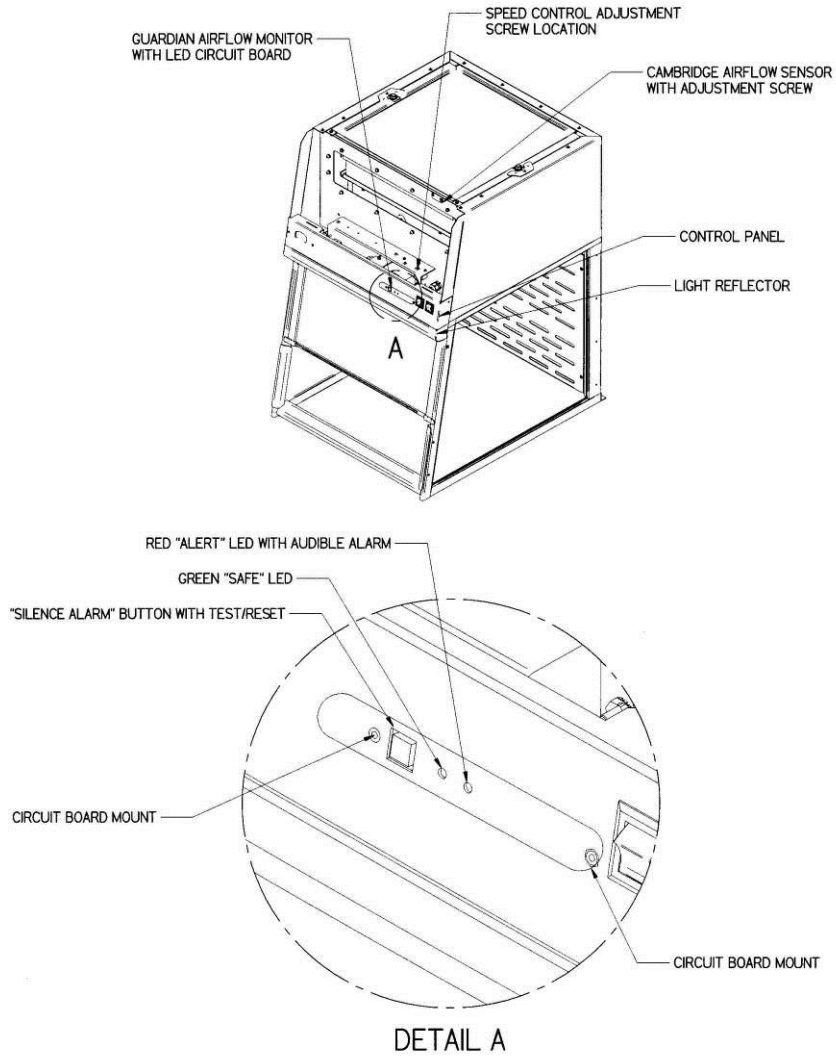
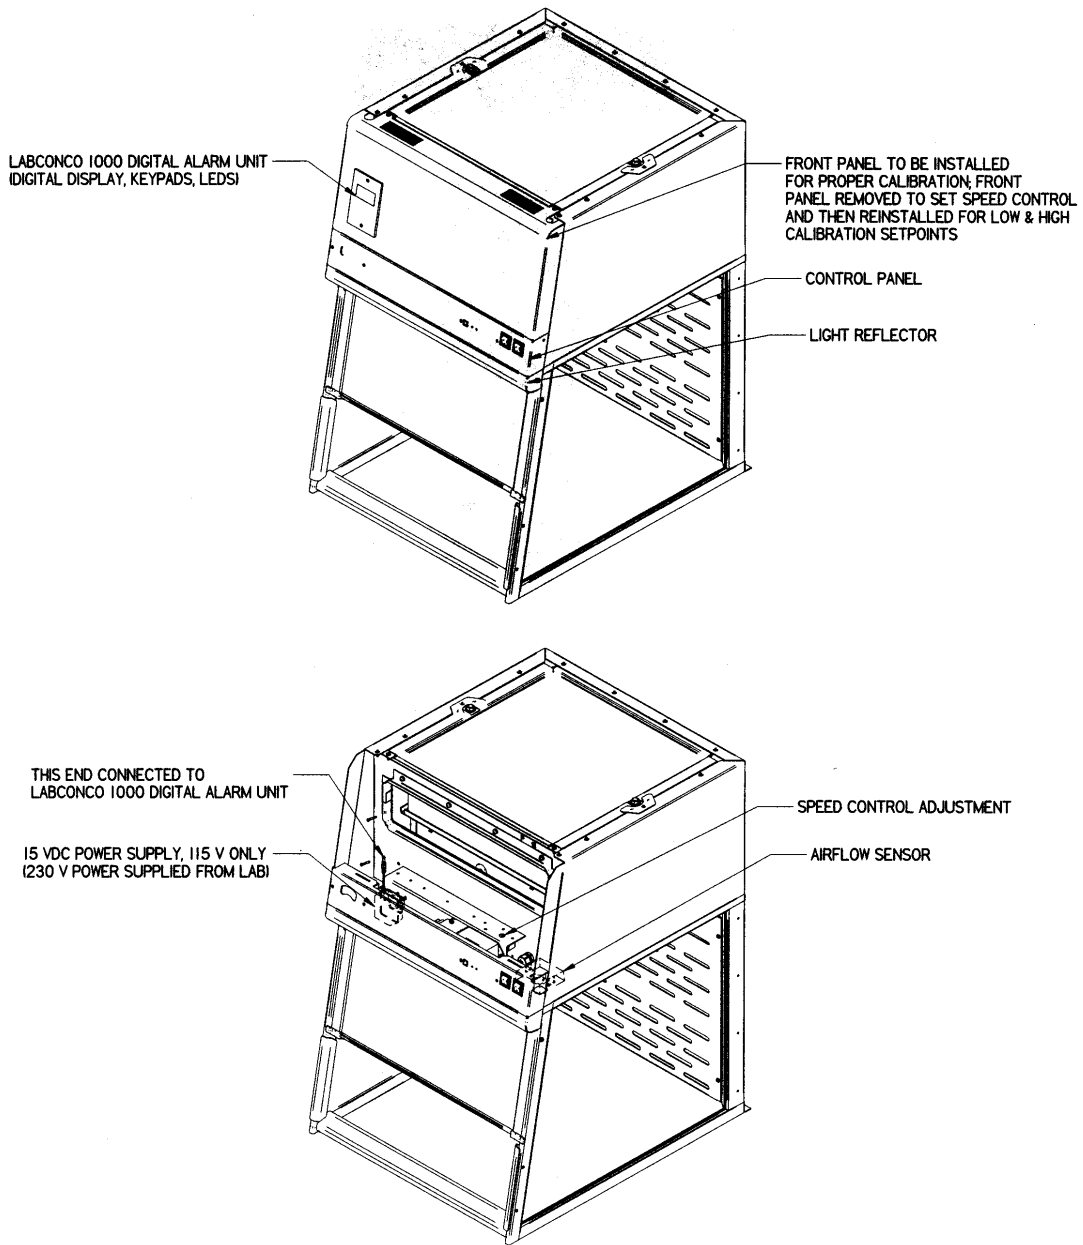

Figure 6-2
Figure 6-3
Refer to Figure 6-3 for operation and calibration. Refer to the separate Labconco 1000 Alarm Manual for detailed information.
2. Locate the small light reflector located under the control panel shown in Figure 6-2 and Figure 6-3.